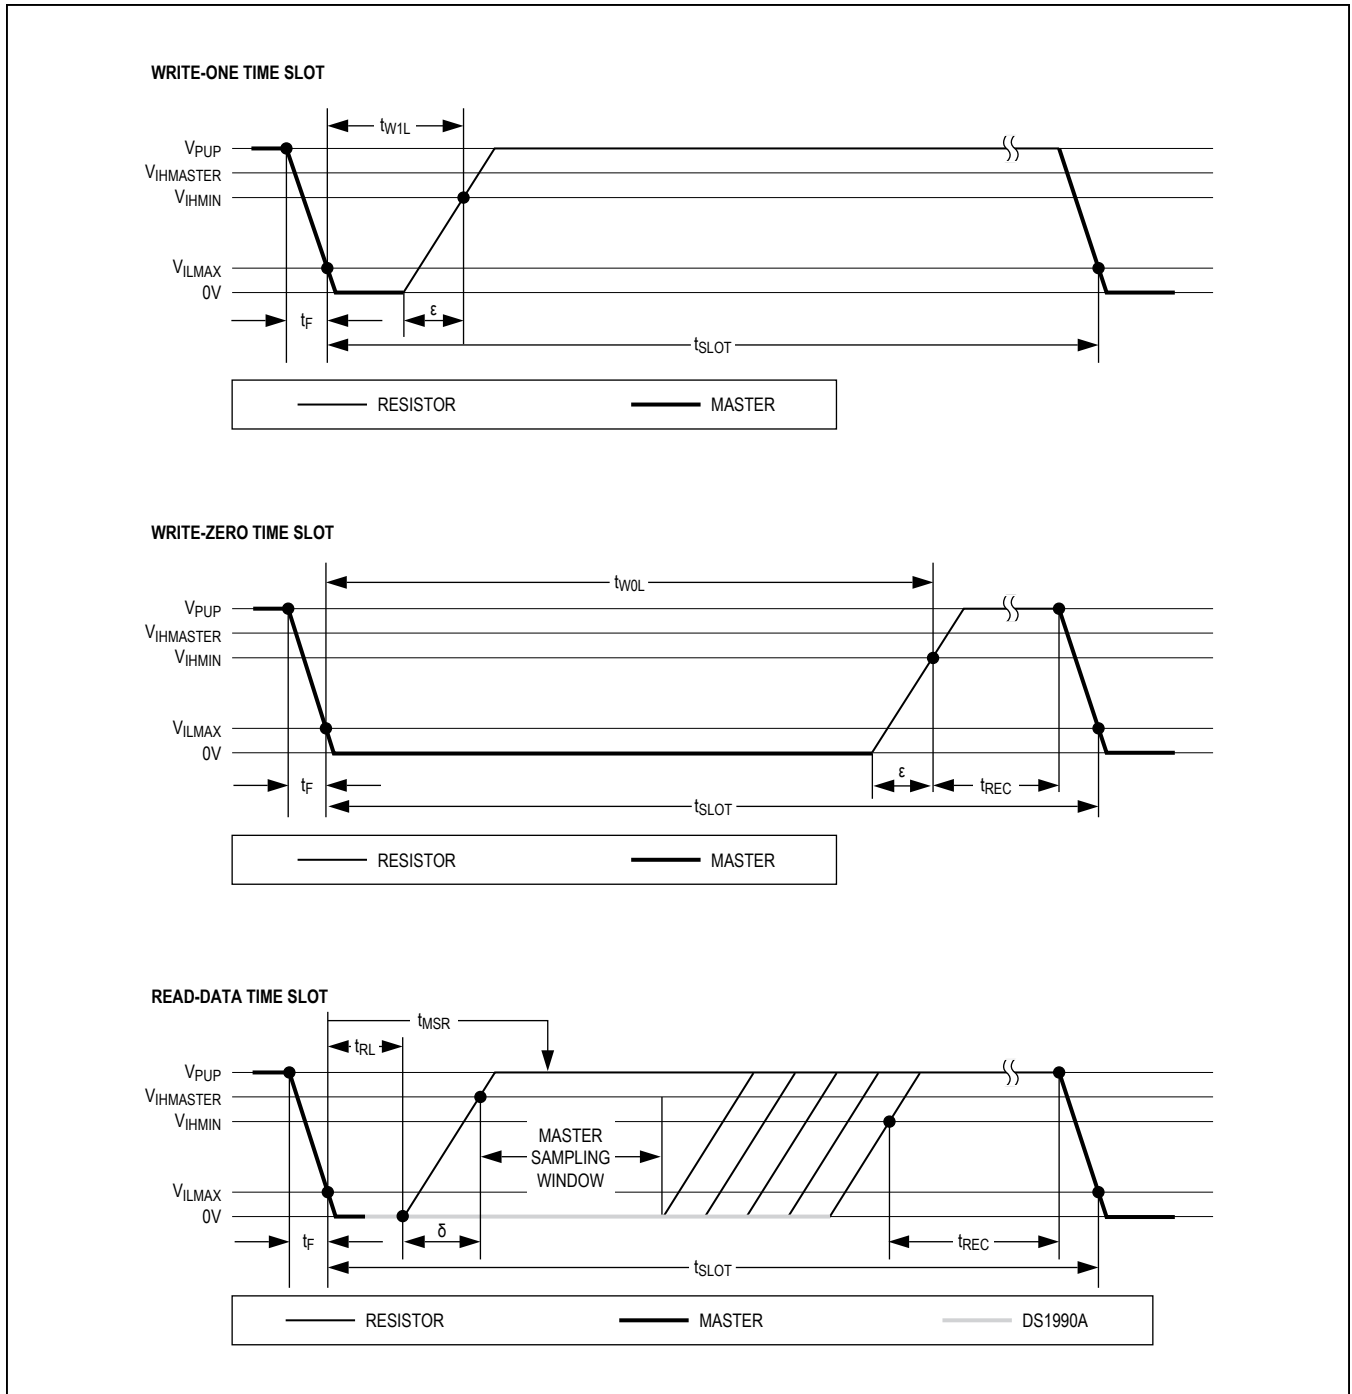

Figure 7. Read/Write Timing Diagram
- Note 12:** ϵ in Figure 7 represents the time required for the pullup circuitry to pull the voltage on IO up from V_{IL} to V_{IH} . The actual maximum duration for the master to pull the line low is $t_{W1LMAX} + t_F - \epsilon$ and $t_{W0LMAX} + t_F - \epsilon$, respectively.
- Note 13:** δ in Figure 7 represents the time required for the pullup circuitry to pull the voltage on IO up from V_{IL} to the input-high threshold of the bus master. The actual maximum duration for the master to pull the line low is $t_{RLMAX} + t_F$.
Data communication with the DS1990A takes place in time slots that carry a single bit each. Write time slots transport data from bus master to slave. Read time slots transfer data from slave to master. The definitions of the write and read time slots are illustrated in Figure 7.